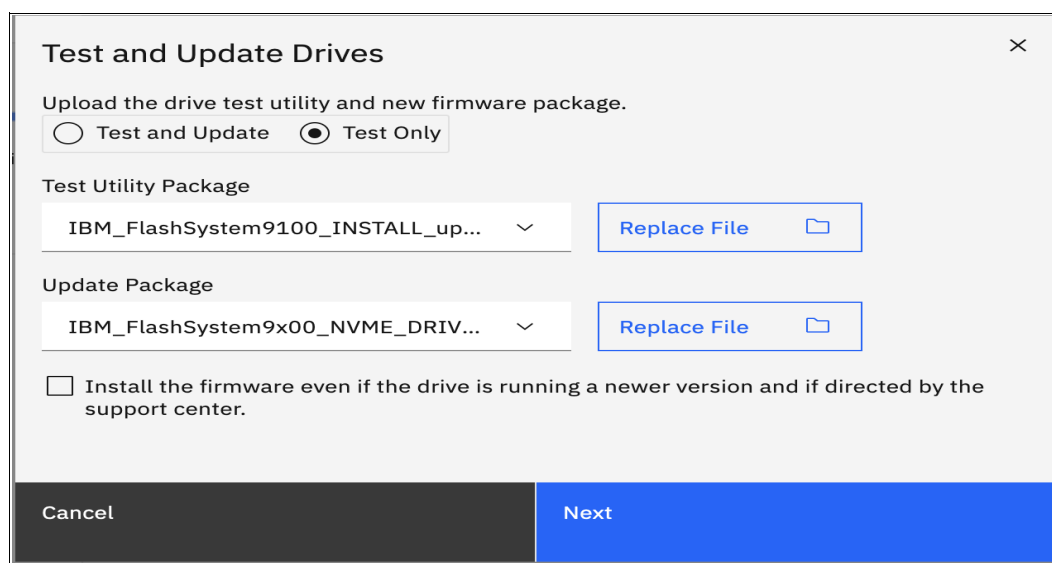

Figure 10-7 Drive firmware upgrade
2. As shown in Figure 10-7, in the Upgrade Package text box, browse to the drive firmware package you downloaded, as described in “Obtaining the software packages” on page 563.